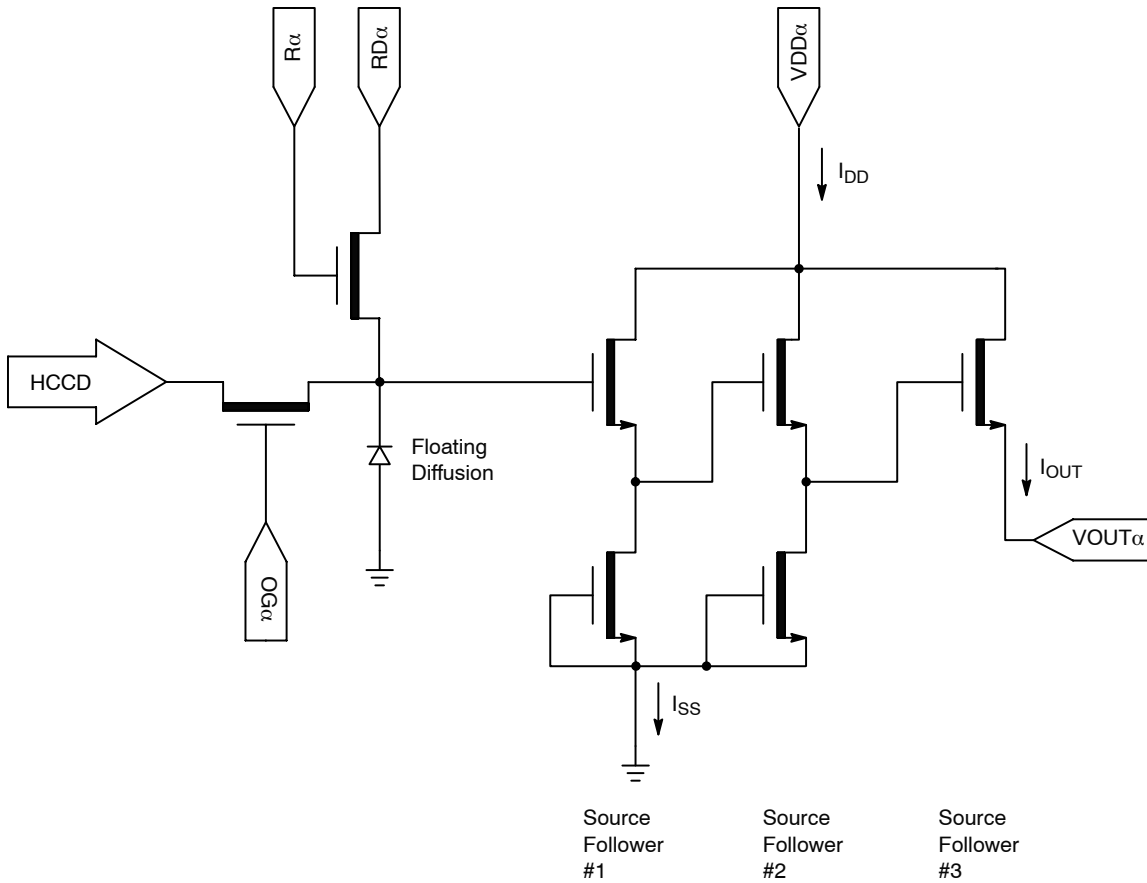

Figure 18. Output Amplifier
- The maximum DC current is for one output. $I_{DD} = I_{OUT} + I_{SS}$. See Figure 18.